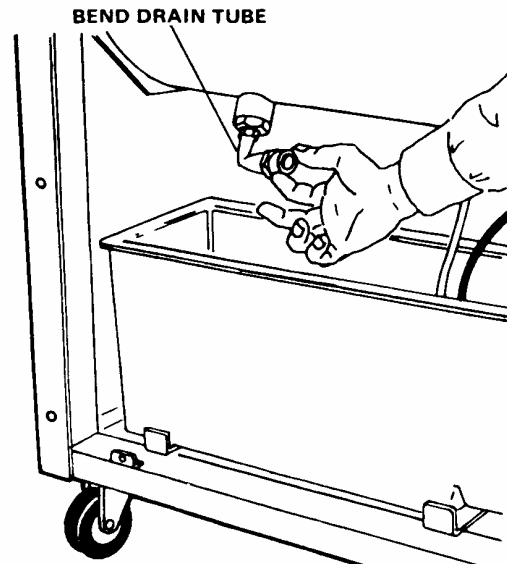

Figure 4-2. Grasping Drain Tube to Prevent Media from Falling Out
**NOTE:** Grasping the tubing tightly or bending the tubing up will prevent any media from falling out when the aerator is removed. (See fig 4-2.) A small cork or rubber stopper can then be inserted in the coupling until the aerator is reinstalled.